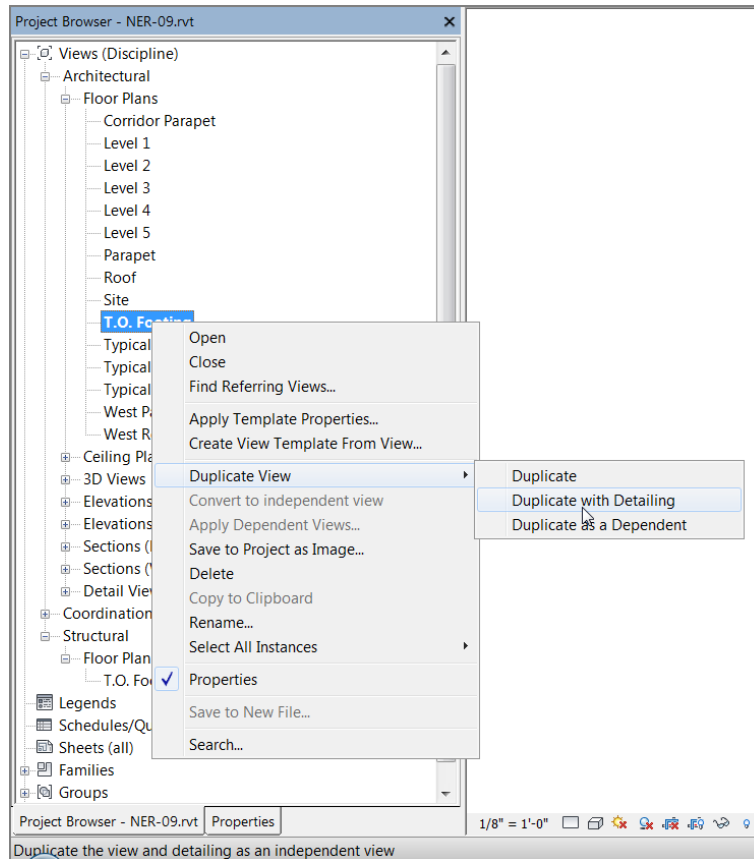

FIGURE 8.70: Selecting Duplicate View > Duplicate With Detailing
1. In the Project Browser, go to Floor Plans, right-click T.O. Footing, and select Duplicate View > Duplicate With Detailing, as shown in Figure 8.70. The new view opens.